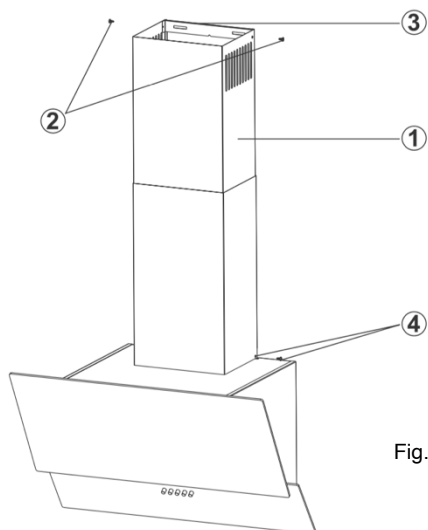

Fig. 13
5. Place the chimney cowl on top of your hood assembly and fix both sides using 2 x 3.5mm screws supplied (position 4 Fig. 13)
6. Extend your chimney extension and secure to the chimney bracket (position 2 Fig. 13)